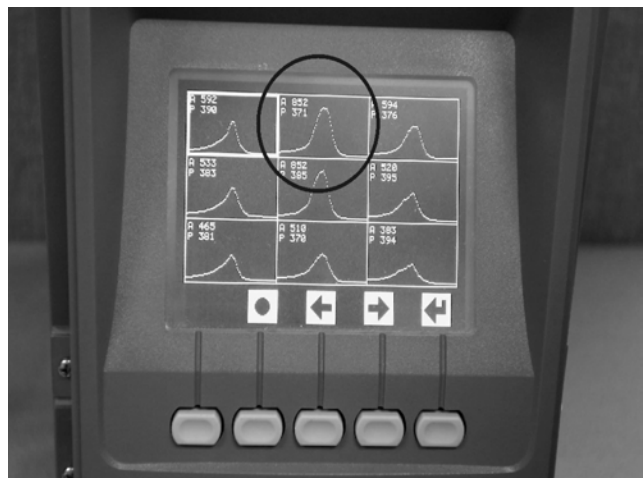

Figure CT-9. Selection of Applanation Graph
4. The AT555 will take nine measurements and then display nine graphs. Use the LEFT and RIGHT arrows and highlight the graph that is symmetrical and has the highest peak amplitude (A). Press the button below the SELECT icon to save the graph position to memory. Refer to Figure CT-9.
6. Use the LEFT and RIGHT arrows to highlight the graph that is symmetrical and has the highest peak amplitude (A). Refer to Figure CT-9. Press the button below the SELECT icon to save the graph position to memory.
8. Use the LEFT and RIGHT arrows to highlight the graph that is symmetrical and has the highest peak amplitude (A). Refer to Figure CT-9. Press the button below the SELECT icon to save the graph position to memory.